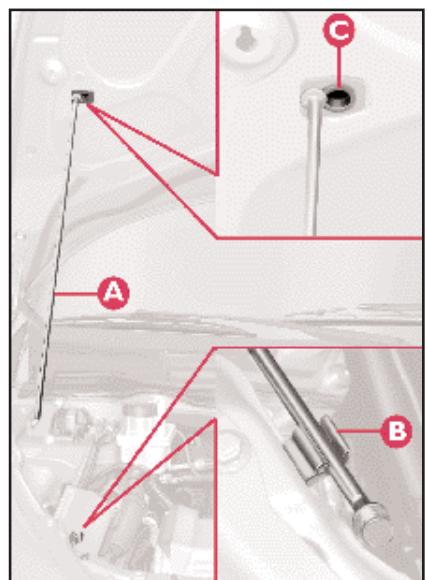

fig. 82
3) Lift the bonnet, and release the support rod A (fig. 82) from its clip B.
1) Hold the bonnet up with one hand and, with the other, remove rod A (fig. 82) from recess C and replace it in its clip B.